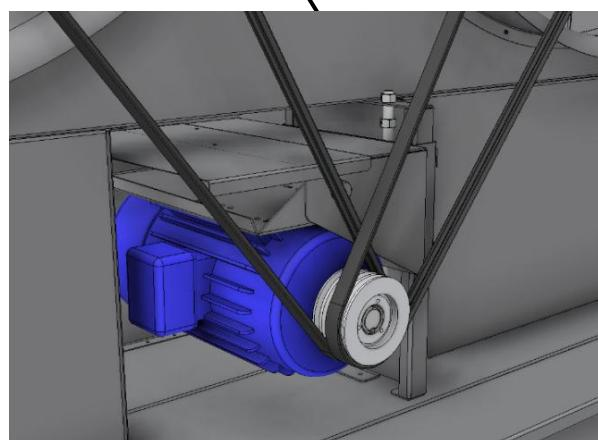

Figure 7. Adjustable Motor Base
2. Dual Fan Units: If motor needs to be adjusted for dual fan units, loosen the lock nut first and then adjust the motor base using adjustment screw **Figure 7**.